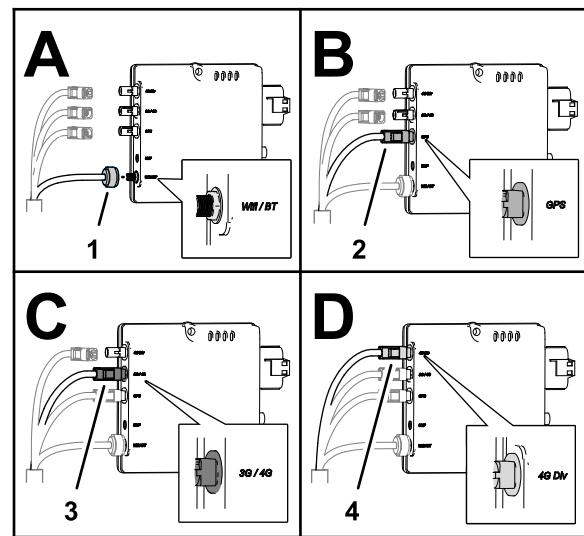

Figure 191
1. Plug the coaxial connector of the modem-antenna harness labeled WiFi into the coaxial port of the CL-55 modem marked WiFi/BT, and tighten the coaxial connector (Figure 191).
2. Plug the blue coaxial push-in connector of the modem-antenna harness labeled GNSS into the connector of the CL-55 modem marked GPS, until the connectors latch securely (Figure 191).
3. Plug the violet coaxial push-in connector of the modem-antenna harness labeled LTE-1 into the connector of the CL-55 modem marked 3G / 4G, until the connectors latch securely (Figure 191).
4. Plug the red coaxial push-in connector of the modem-antenna harness labeled LTE-2 into the connector of the CL-55 modem marked 4G Div, until the connectors latch securely (Figure 191).